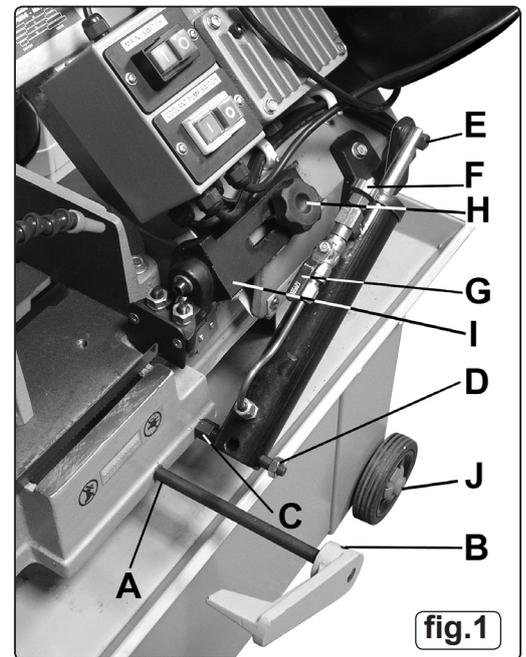

fig.1
- 3.3. **Attaching the damper cylinder.** Screw the threaded end of the cylinder support rod into the tapped hole in the machine bed (see fig.1C) and tighten it using a 17mm spanner applied to the hex section. Slide the damper cylinder assembly onto the rod in the correct orientation as shown in fig.1 (with valve controls upwards) and screw the 14mm retaining nut into position on the end of the rod (fig.1D). Insert the stepped hinge pin (fig.1E) through the hole in the end of the piston and swing the cylinder upwards towards the cylinder bracket attached to the main arm. In order to screw the hinge pin into the bracket it may be necessary to depress the piston. Alternatively get a second person to raise and support the arm until the hinge pin is aligned with the hole in the bracket. Tighten the hinge pin with a 14mm spanner.
- 4.3.1. The rate of descent of the main cutting arm is controlled by the damping cylinder seen in fig.1. By turning the knob 'F' in fig.1 clockwise the rate of descent is slowed down. By turning the knob anticlockwise the rate of descent is increased. The arm can be locked in any position by turning the hydraulic flow off using tap 'G' in fig.1. When the tap is at 90° to the cylinder the flow is off and the arm will stop moving.
- 4.6.4. The right hand blade guide can be seen in fig.1 item 'I'. To adjust it, loosen knob H and slide the guide near to the workpiece. Tighten knob H.